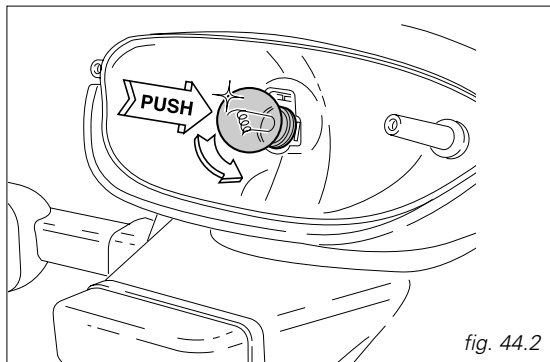

fig. 44.2
To replace the stop and parking light bulb, unscrew the two screws (1, fig. 44.1) that secure the glass and remove glass. The bulb is of the banjo-type: press and rotate anti-clockwise to remove; fit the spare bulb by pressing and turning clockwise until it clicks (fig. 44.2). Refit the glass and tighten the screws (1).